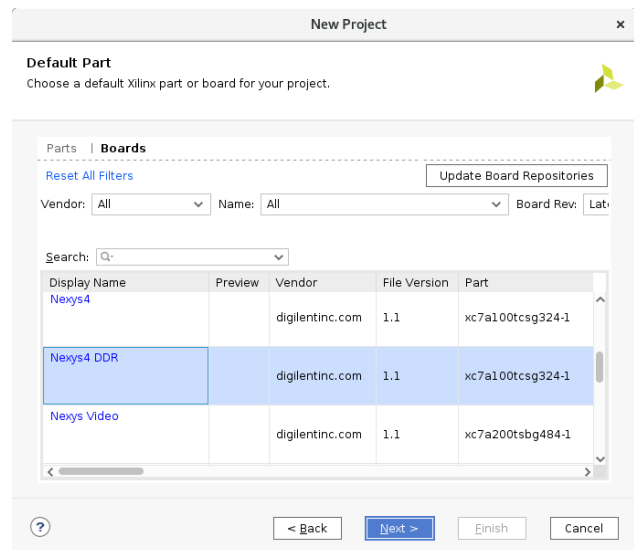

Figure 2: Default Part page of the New Project Wizard
6. On the **Default Part** page, configure the project properties as shown in Figure 2 by clicking **Boards** and scroll down to select the **Nexys4 DDR** board. The Xilinx Vivado software will use this board’s layout definitions to later help implement designs. Click **Next**.